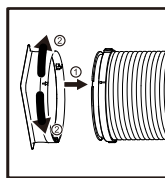

Fig. 1
1. Align the both arrow of hose inlet connector and hose, insert; (Fig. 1)
2. Rotary the hose inlet connector Clockwise or counterclockwise about 60°; (Fig. 1)